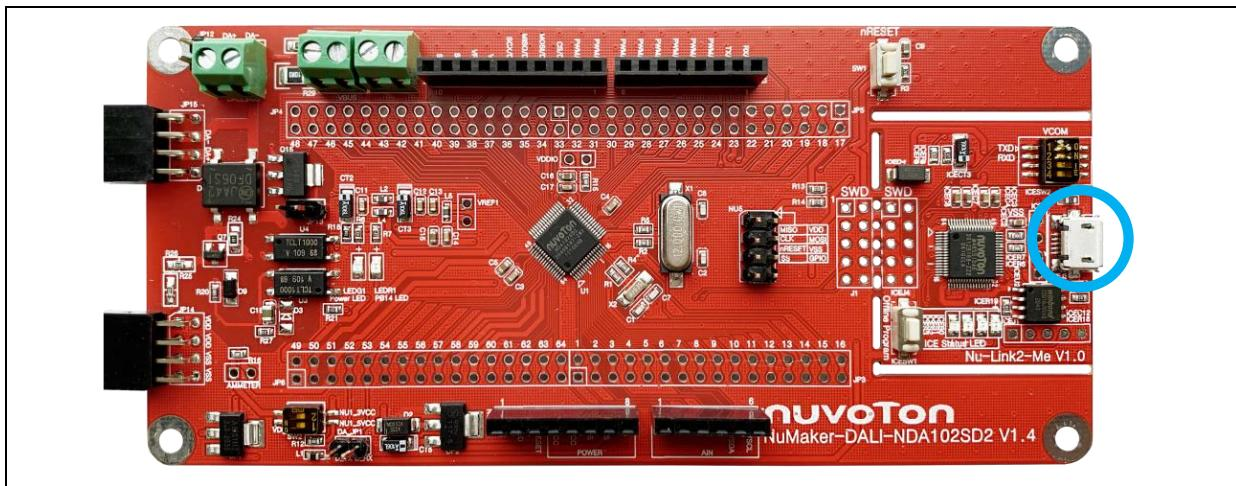

Figure 5-14 ICE USB Connector
3. Connect the ICE USB connector shown in Figure 5-14 to the PC USB port through USB cable.
2. Connect the ICE USB connector shown in Figure 5-14 to the PC USB port through USB cable.